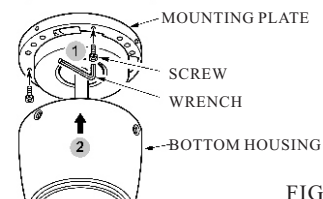

FIG. 8
5. Tighten the 3 screws to fix the motor.using allen screws and wrench provided.(see fig.8)